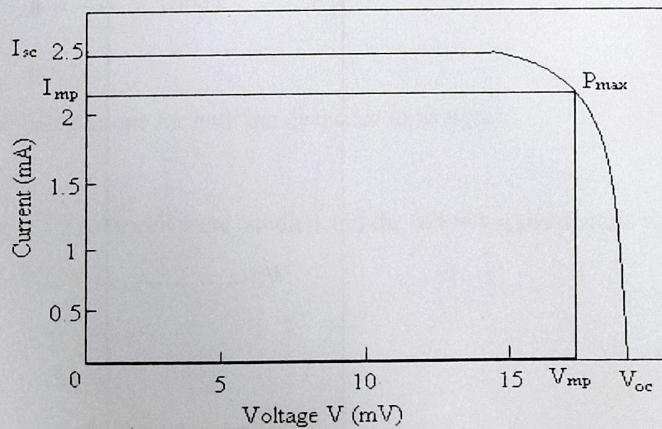

Figure 2: I-V characteristics of a Solar cell
8. Draw a graph between ' V ' and ' I ' as shown in Figure 2.
9. A pair of ' V ' and ' I ' for which area of the rectangle in the plot is maximum represent ' I_{mp} ' and ' V_{mp} ' and their product gives ' P_{max} ' (Figure 2)